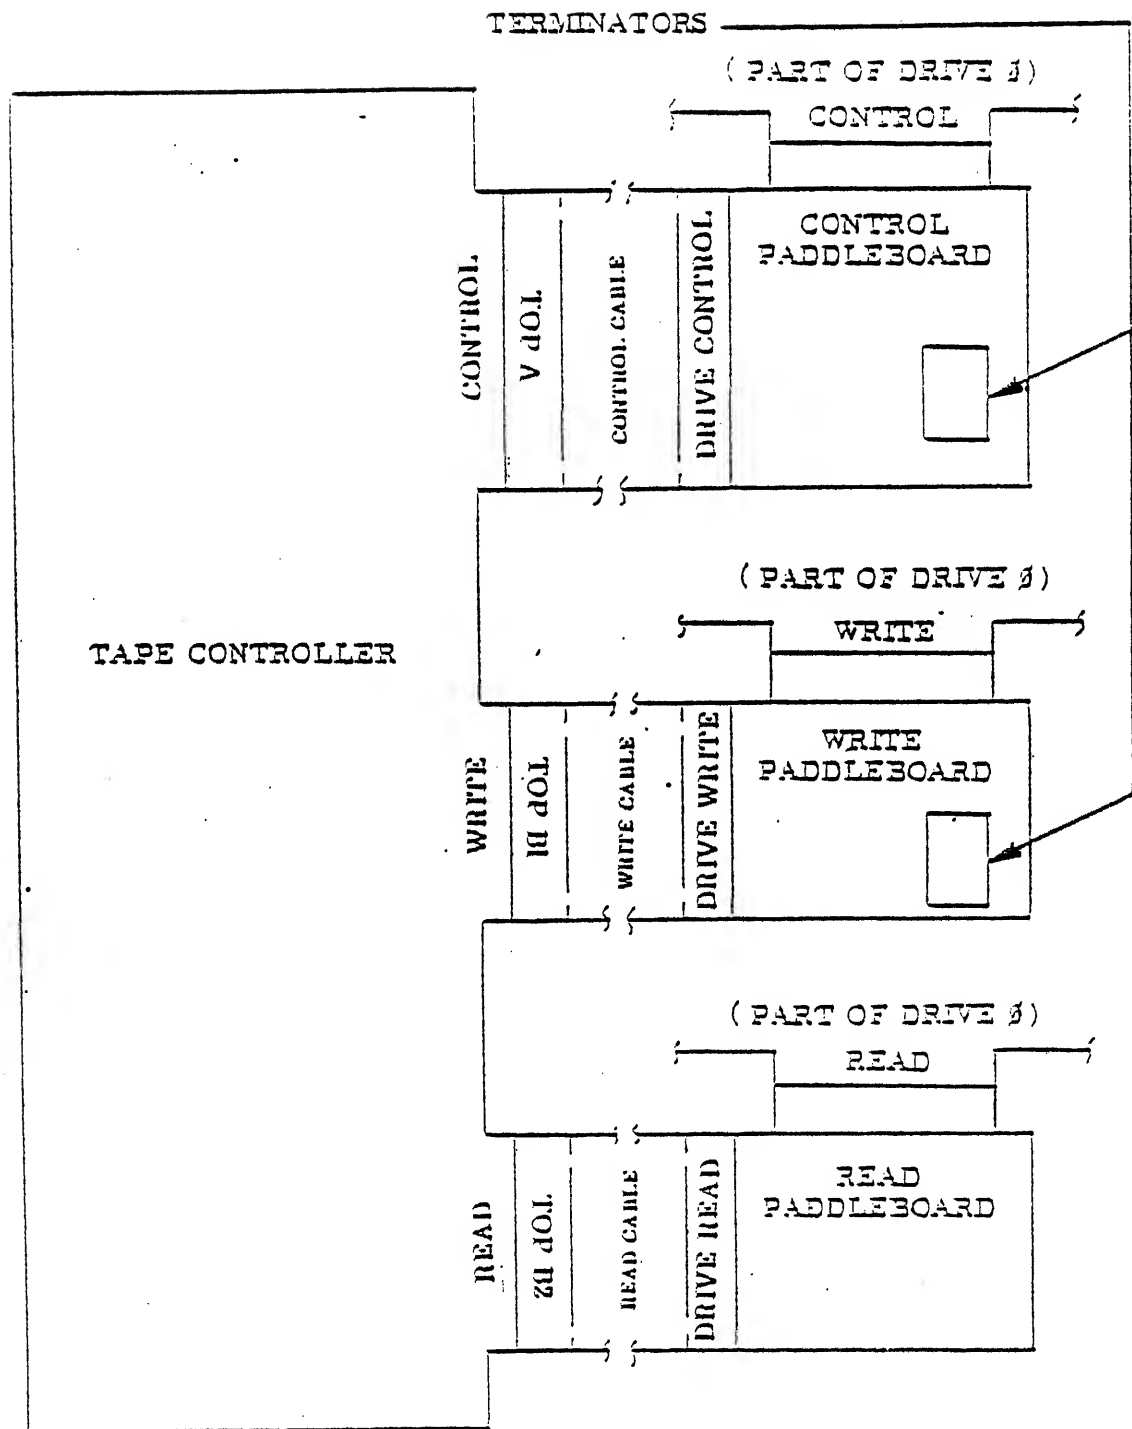

Figure 2-7. Single Tape Drive Connections
2.24 TAPE DRIVE INTERCONNECTIONS. Locate a set of three ribbon cables for each drive (one set is connected to the controller). Check that each connector has its key in place and connect the cables as shown in Table 2-5 and Figures 2-7 and 2-8.